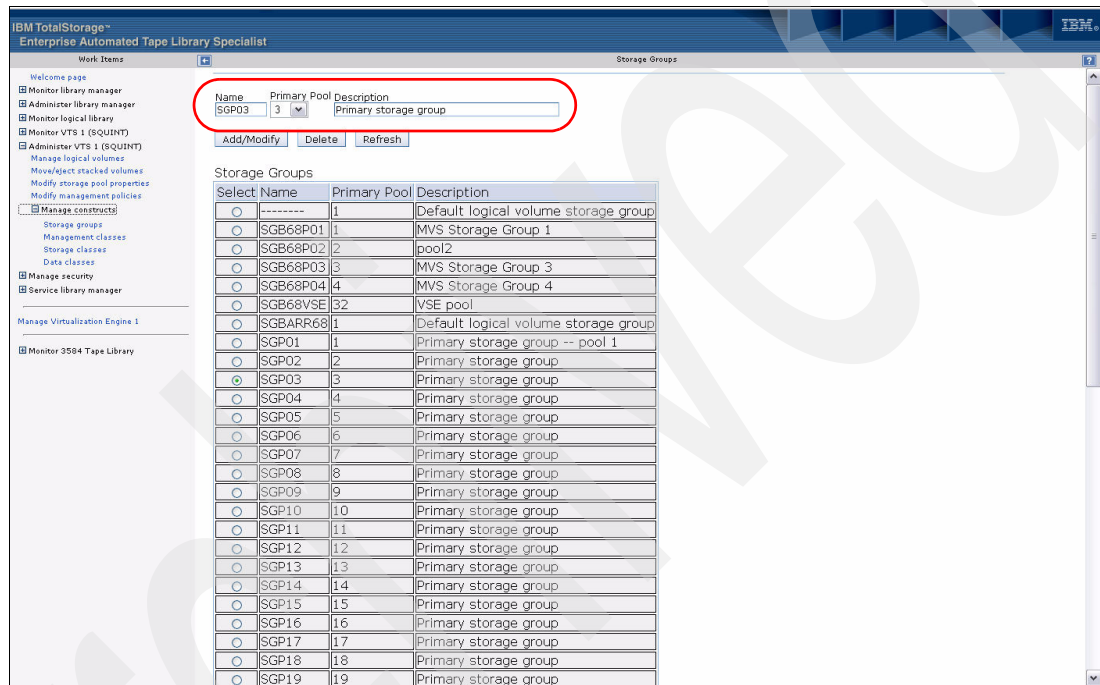

Figure F-14 ETL Specialist Manage Storage Groups - OPM setup
- SGPROD is assigned Primary Pool 02. This pool contains logical volume production application data (Figure F-14).